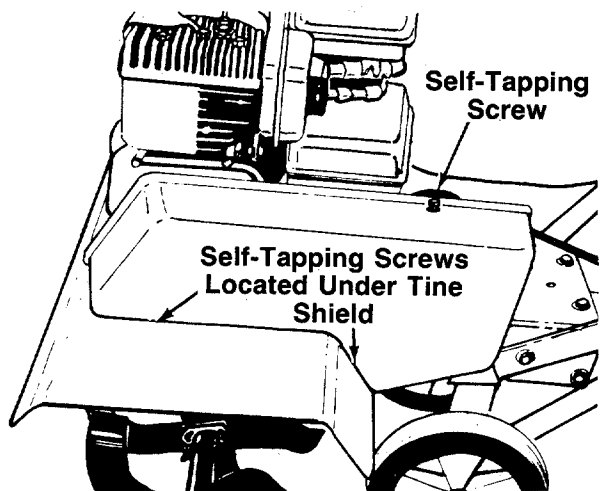

FIGURE 24.
1. Remove the belt cover by removing three self-tapping screws. A 3/8" wrench is required. See figure 24.
2. After removing three screws, lift off belt cover. See figures 24 and 25.
6. Reassemble the belt cover. See figure 24.